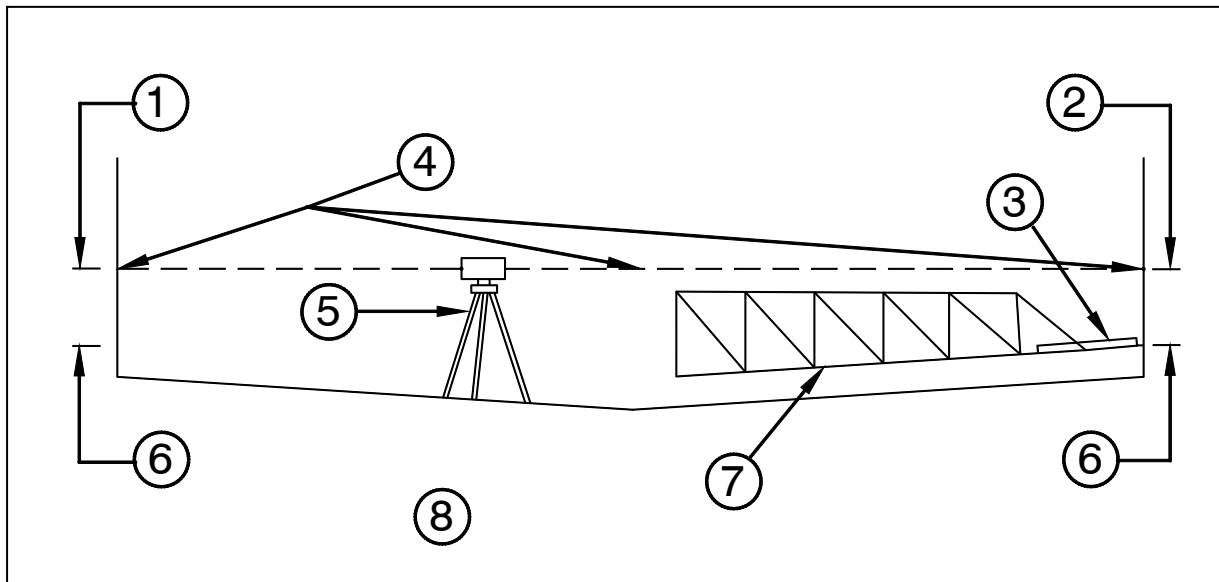
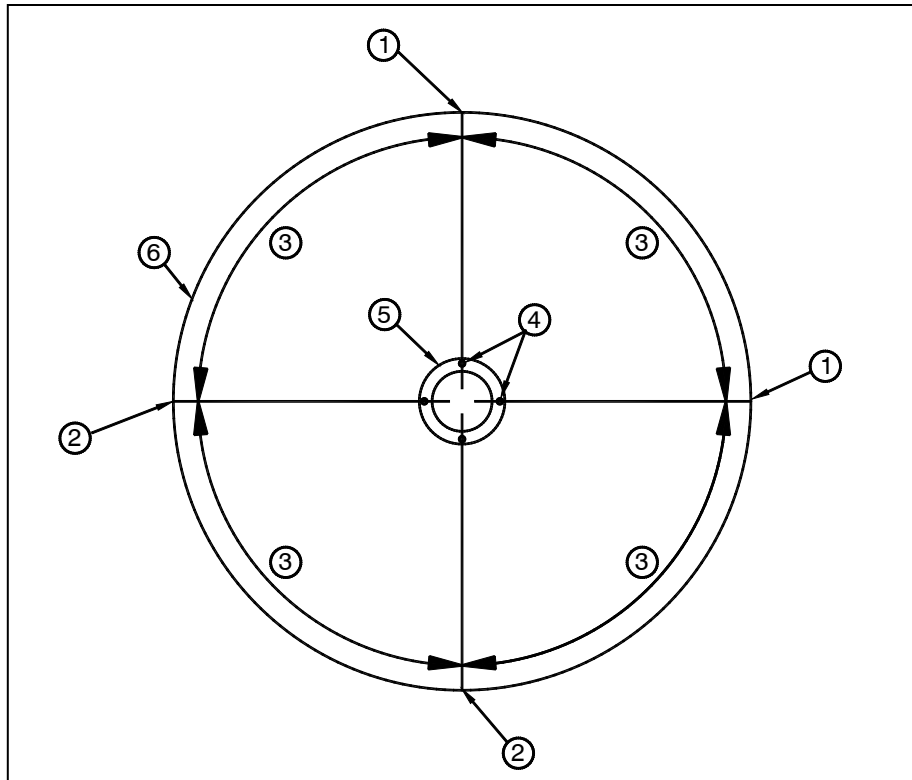

Figure 2.7a
Figure 2.7b
height and spaced approximately 90° apart. See Figures 2.7a and 2.7b. Benchmarks should be in alignment with the jackscrews (drive leveling screws), as shown in Figure 2.7b.
- b. Rotate the drive and stop one (and the same) rake arm at each of the four level points marked around the tank, and using a carpenter's level as an extension from that arm to the tank wall, make the second marks. These are shown as the "Reference Marks" in Figure 2.7a.
- c. Referring to Figures 2.7a and 2.7b, compare the difference in dimensions between the level marks and the rake arm reference marks at diametrically opposite sides of the tank (two directions, 90° apart).